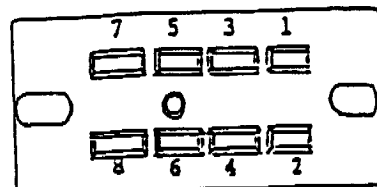

Figure 3
2. Remove the terminal from location 3 of changer socket (see figure 3 above) using removal instructions on page 2.
4. Insert wire #3 of conversion harness in changer socket location 3. (See figure 3, page C1.)
5. Insert wire #4 of conversion harness in changer socket location 4. (See figure 3, page C1.)
6. Discard wire numbers 7 & 8 of the conversion harness. They will not be used in a dual (2) price installation.